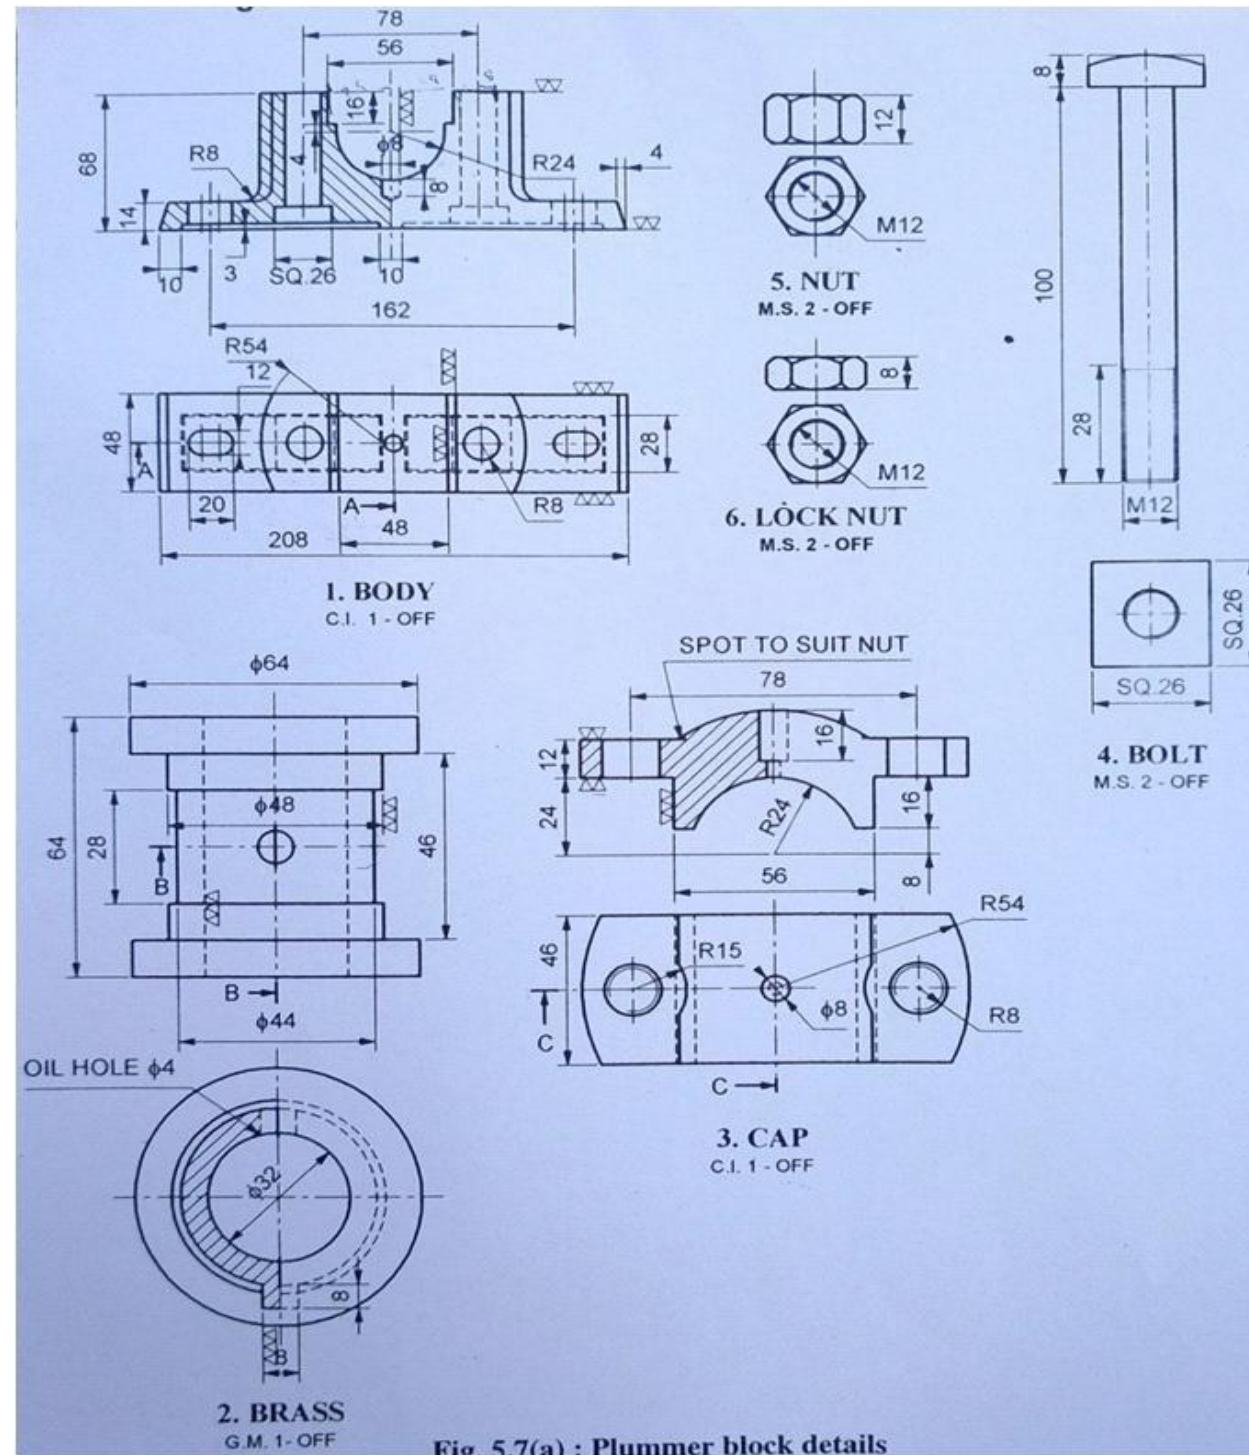

Figure 6
2. Figure 6. Shows the details of pedestal bearing plumber block. Draw the following views of the assembly. a) front view sectional b) top view outside c) prepare bill of material